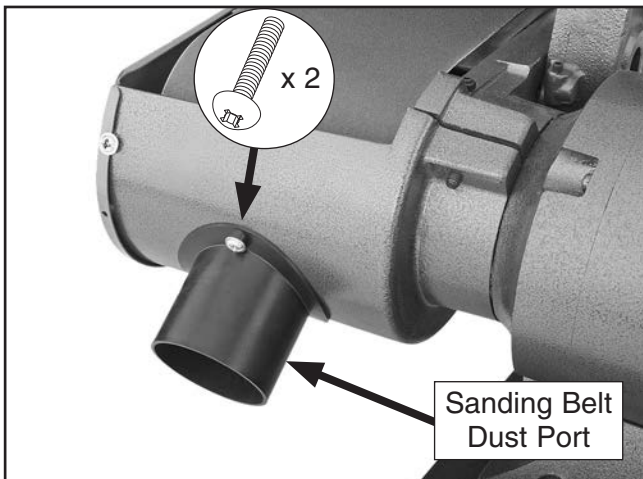

Figure 15. Sanding belt dust port attached.
5. Attach the 3" dust port to the bottom of the sanding belt housing with the (2) $\frac{1}{4}$ "-20 x $\frac{1}{2}$ " Phillips head screws, as shown in **Figure 15**.